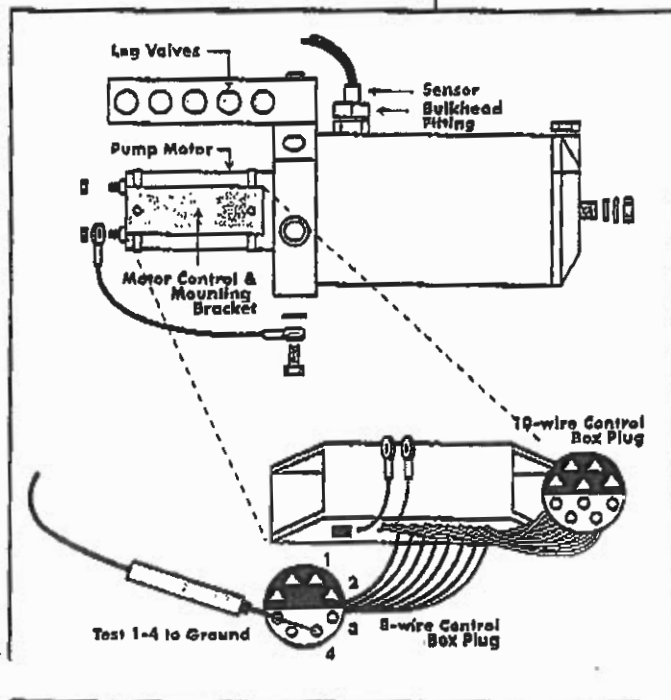

Figure 2j
- b. Retest panel, if the LED continues to flash red, check leg reed switch function. Separate the large wiring connector plug at motor control containing the leg position wires, (labeled, LEGA, LEGB, LEGC, LEGD). Using an ohm meter check the wire leading to each of the leg switches to ground. Each of these wires should show continuity to ground when the legs are fully retracted. If a wire does not show continuity trace wire to defective leg switch and replace. (Fig. 2j)